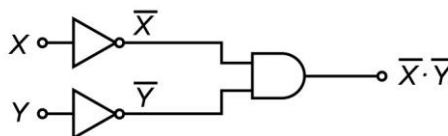

Fig. 2.5: Circuit to build $\overline{X} \cdot \overline{Y}$.
8. Connect the ICs 7408 and 7404 on the breadboard as shown in Fig. 2.5.